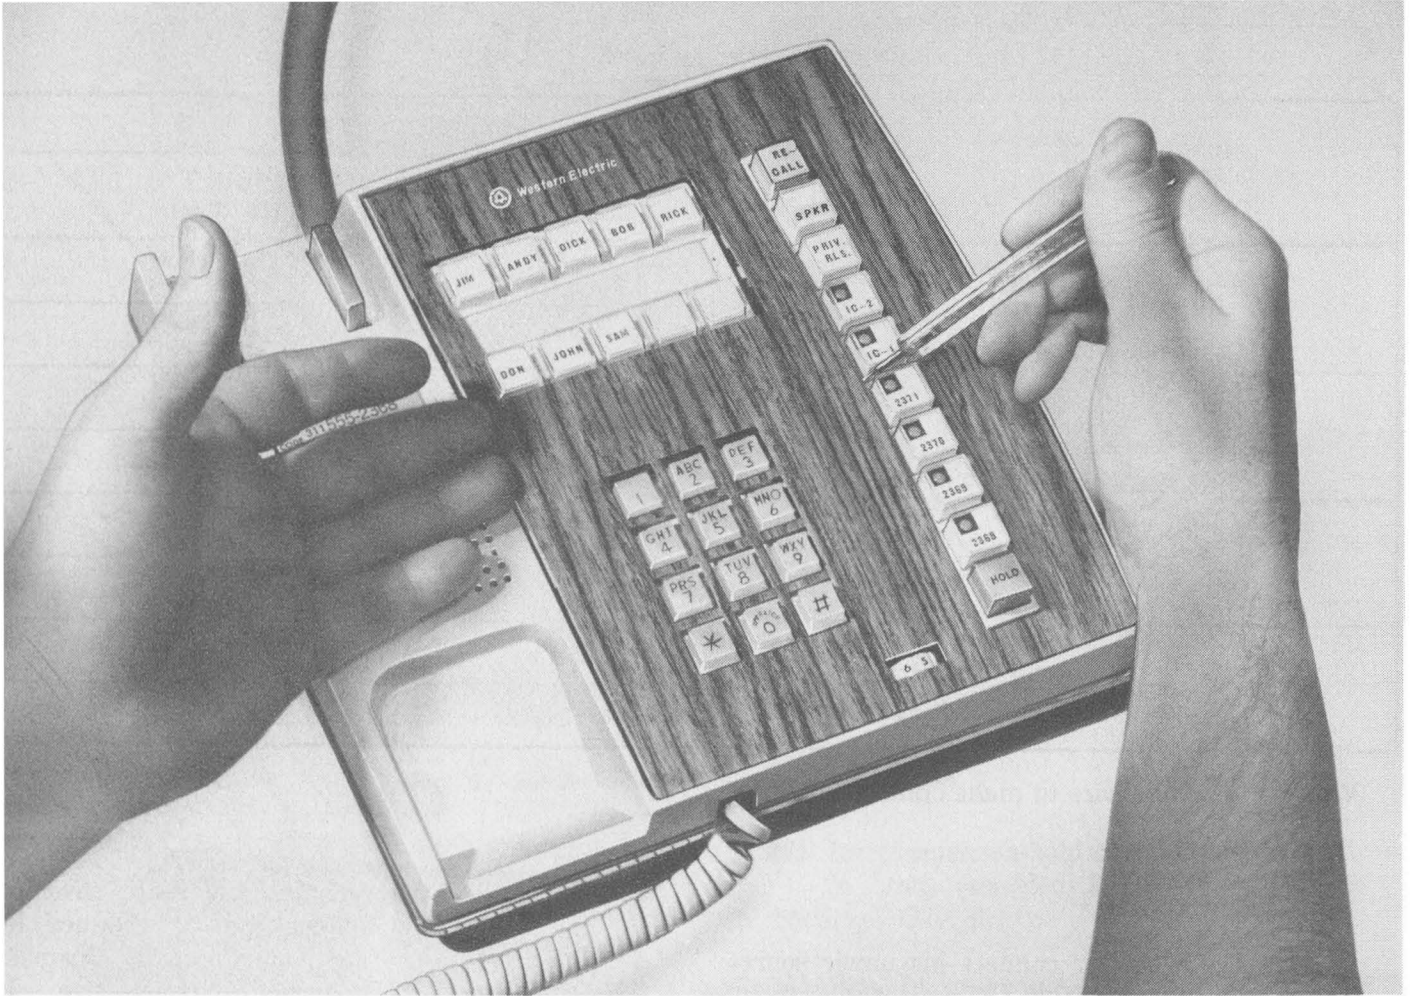
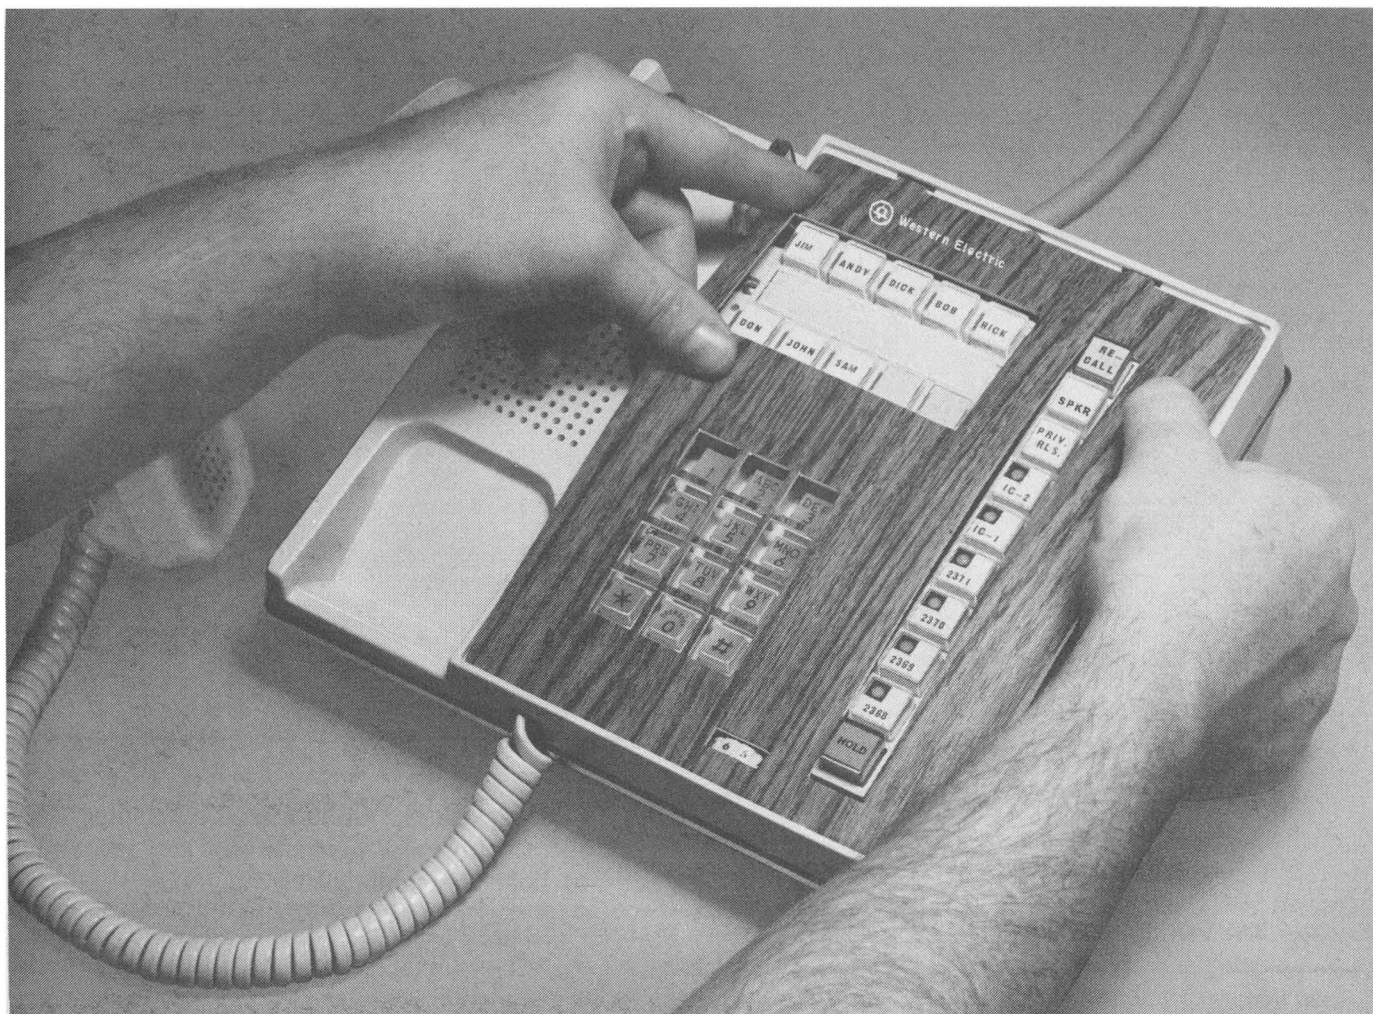

Fig. 10—Faceplate Removal
Fig. 11—Replacing Faceplate
- (1) Remove faceplate by inserting a KS-16750 tool in the notch near the center of the faceplate and raising upward to bow faceplate (Fig. 10).
- (2) Loosen two captive screws holding DSS key and move key to side.
(3) On a TOUCH-TONE set, move the O-BK lead from terminal 36 to 31; on rotary sets, move the BL-R lead from terminal 28 to 39.
(4) Replace DSS key.
(5) Install faceplate by inserting in slots at bottom of set and bowing it until it will slide in slots at top of set (Fig. 11).
(1) Remove faceplate by inserting a KS-16750 tool in the notch near the center of the faceplate and raising upward. See Fig. 10.
(2) Remove DSS key.
(3) Remove W-BR lead from telephone set terminal 9 and W-G from terminal 38. Insulate and store leads.
(5) Replace faceplate (see Fig. 11).